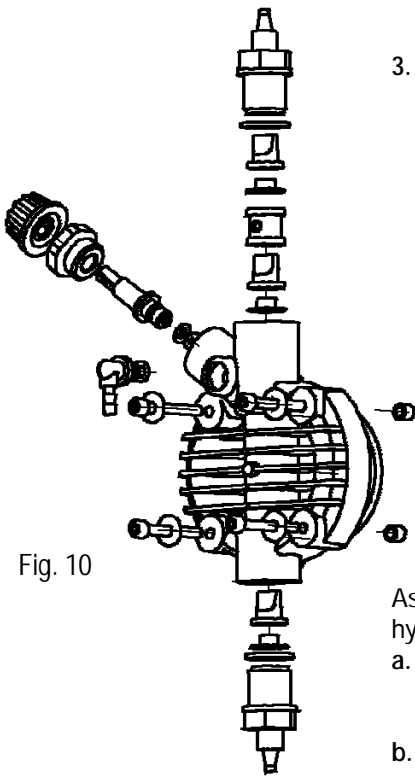

Fig. 10
3. Drain the liquid present in the pump body by disassembling and reassembling the pump body using the four fixing screws, tightening torque 180÷200 Nxcn (Fig. 10).
2. Check pump operation, screw seals and gaskets every 6 months and for very aggressive liquids make more frequent checks and in particular monitor the concentration of the plant additive; a reduction in additive concentration could be determined by wear on the valves (in this case substitute the valves being careful to reassemble them as in Fig. 10) or by clogging of the filter which must be cleaned as follows.
To perform this operation when the equipment is not fixed to the plant, the pump can be pulsed for a few seconds (15-30) keeping it overturned and without piping connected to the fittings. If this is not possible disassemble and reassemble the pump body (Fig. 10), using the four fixing screws.